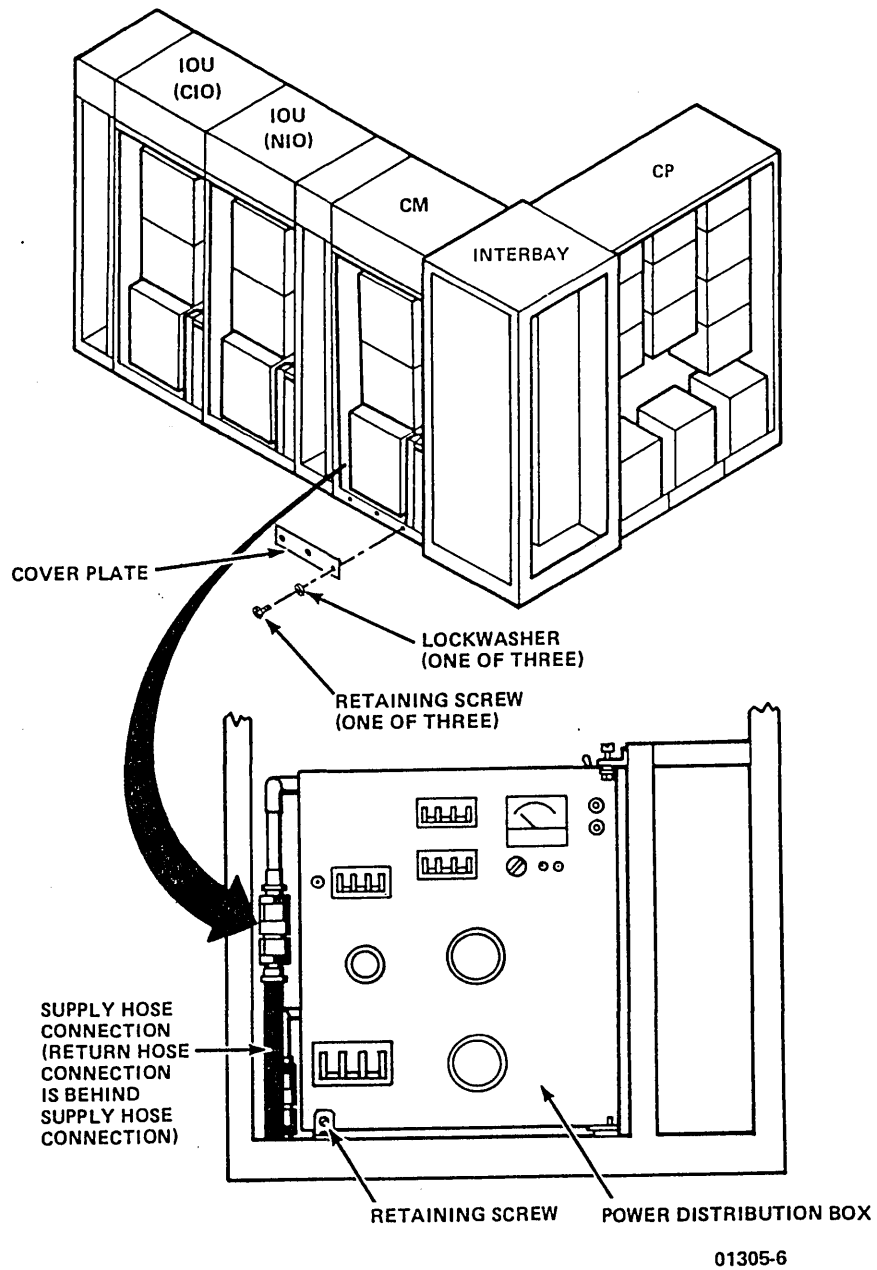

Figure 3-11. Supply and Return Water Hose Connections to CM and IOU
- ___ 1. Remove three retaining screws, lockwashers and cover plate from bottom of CM (figure 3-11).